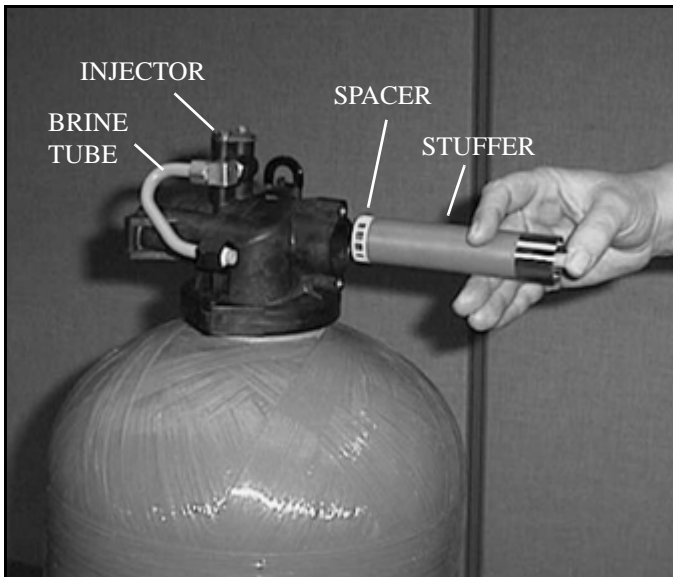

Figure 4 Replacing Spacer In Valve Body
11. To replace seals, spacers and end ring, use special tool with the brass sleeve on one end. This is a double-purpose tool., (See Fig. 4). The male end acts as a pilot to hold the spacers as they are pushed into the valve body and the brass female end is used to insert the seals into the valve body.
12. To restuff a valve body, first take the end ring (the plastic or brass ring without holes), then with your thumb press the button on the brass sleeve end, the large dia. inner portion is now exposed (See Fig. 4). Place the end ring on this pilot with the lip on the end ring facing the tool, and push the tool into the valve body bore until it bottoms. While the tool is in the valve body, take a seal and press it into the inside diameter of the exposed brass female end (See Fig. 5).